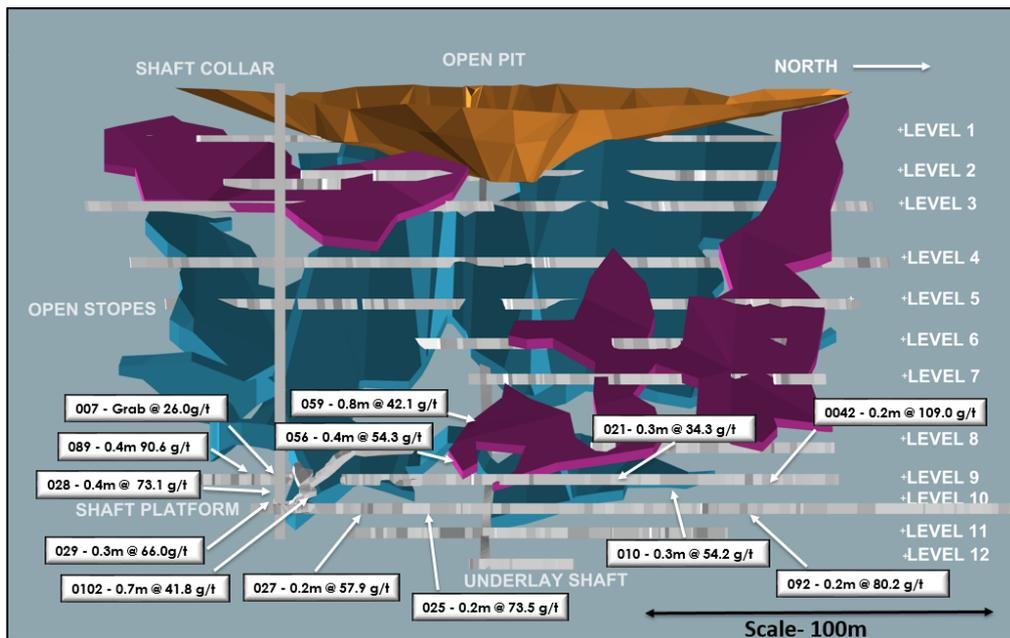

Figure 1 Radio Mine Long Section showing selected lode samples [width@grade]
Geological sampling of the historical underground has been undertaken at key areas to pinpoint bulk sample locations that are accessible and proximal to the shaft haulage. Assays results have confirmed the high-grade, nuggetty nature of the Radio lodes and broadly confirm those obtained when Radio was last dewatered and sampled by Carn Brae in 1991. Significant results from the recent sampling program are furnished in table 1 below and figure 1 overleaf. A complete set of results including sample locations are provided in Appendix –Table 2. From this work three (3) main locations have been identified which will form the initial mining blocks.